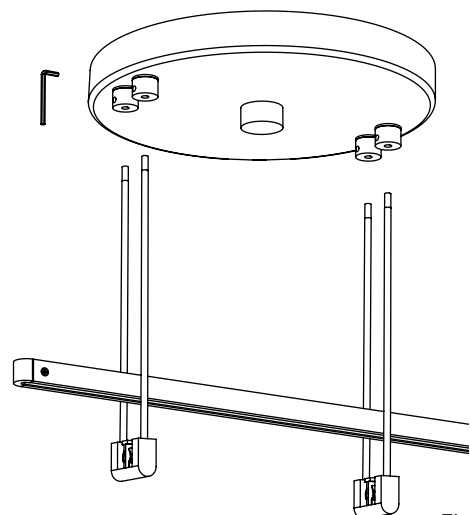

Fig. 3
1. Install the Double Rod Power Feed Hanger onto the Power Bar the same was as the Parallel Power Bar Hanger (page 28): press down firmly on the top of the Power Bar, while pressing up on the bottom of the Hanger, until the Power Bar clicks into place. (Fig. 3)